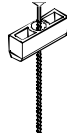

Fig. 7
**Note! To keep the right distance between the collectors it is necessary to use the black spacers (Fig. 1, Fig. 2, Fig. 7)!**